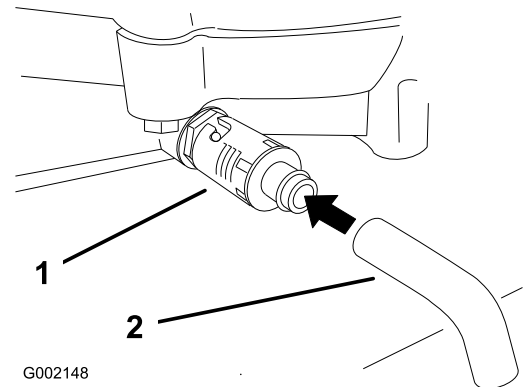

Figure 24
4. Place a pan below the drain. Rotate the oil drain valve to allow the oil to drain (Figure 24).